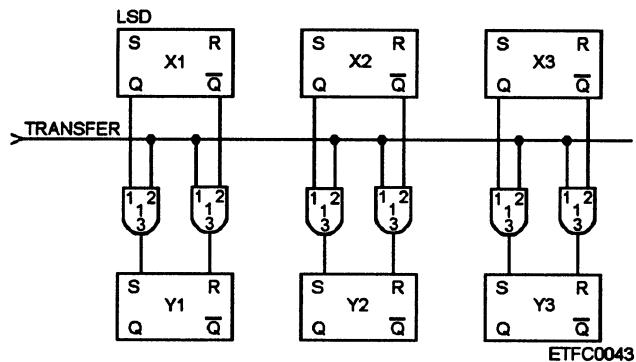

Figure 4-26.—example of a double-line parallel transfer,
- Double-line (dual) parallel transfer (also called forced method)—1's and 0's are moved. This transfer is faster than the single-line parallel transfer; however it requires more logic gates. With this method the receiving register is forced to assume the state of corresponding flip-flops of the sending register. This eliminates the need to clear the receiving register's contents before the transfer. Refer to figure 4-26.